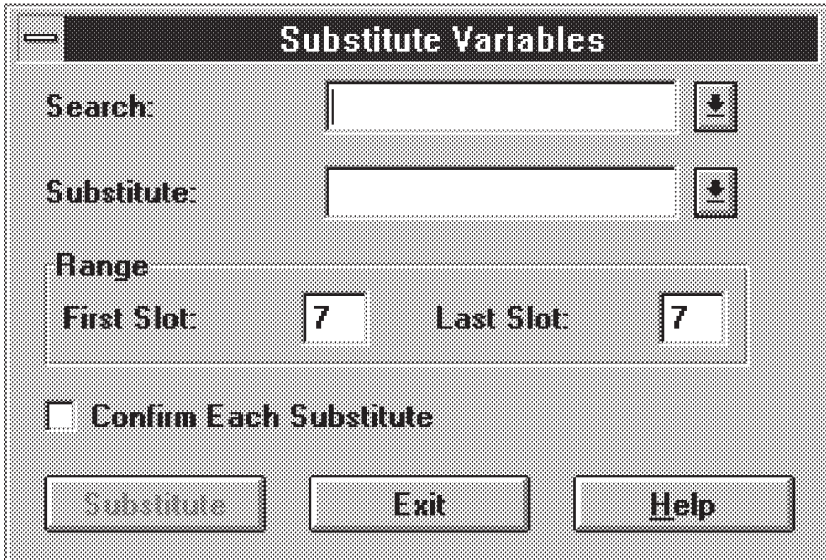

Figure 6.7 - Substitute Variables Dialog Box
Step 1. Select Substitute Variables from the Commands menu. The Substitute Variables dialog box is displayed (see figure 6.7).